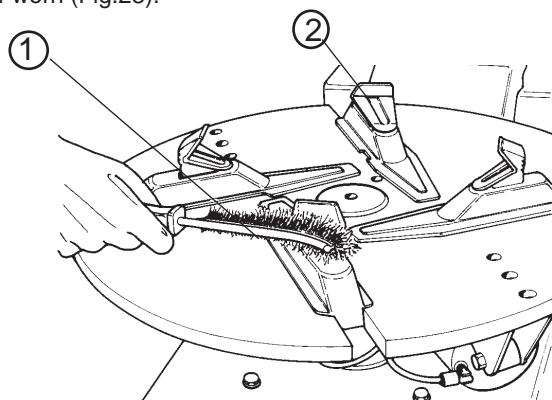

Fig.28
**C.** Weekly clean the teeth of the clamps (1) with a wire brush, check the nylon clamping jaw insert and (2) replace if worn (Fig.28).